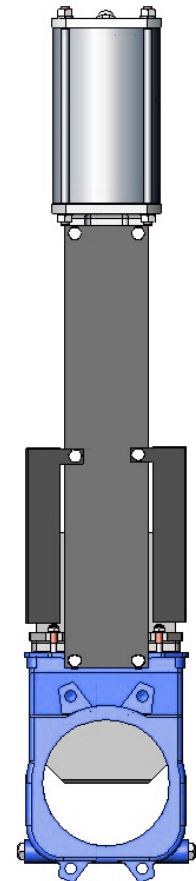

Fig. 12
3. EXTENSION: Extended Support Plates (fig 12).